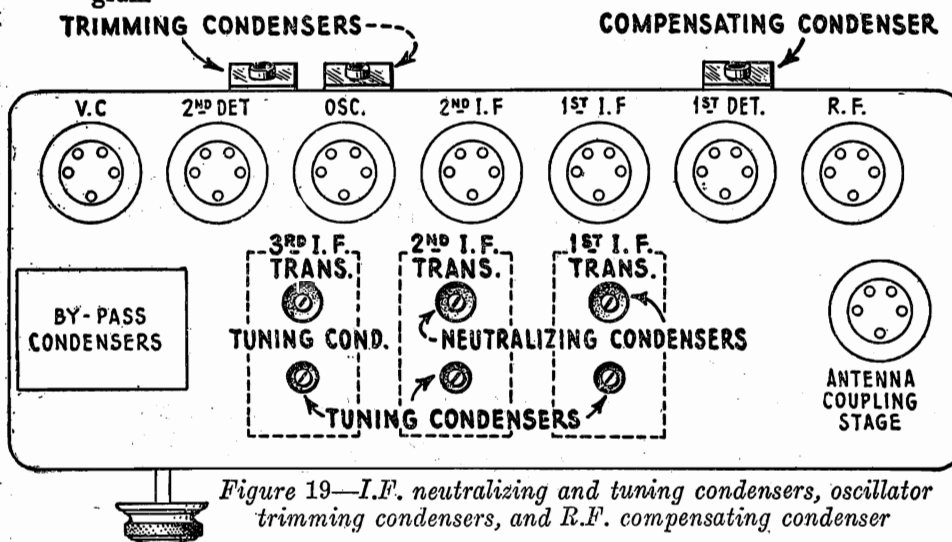

Figure 19—I.F. neutralizing and tuning condensers, oscillator trimming condensers, and R.F. compensating condenser
- (a) Adjust the tuning condensers successively on the third, second and first I.F. transformers (Figure 19) for maximum signal in the loudspeaker and maximum reading on the tuning meter. After making one adjustment on the transformers it is a good plan to repeat, as slight changes may have occurred in tuning the other circuits. No signal, or a loud howl indicates neutralizing condensers are at either extreme, and should be readjusted.
Leave all adjustments and apparatus in position on completion of tuning. Connect a pair of phones across the cone coil of the reproducer unit. Turn the power off while making this connection. Place dummy Radiotron in first I.F. socket. Now adjust the neutralizing condenser on the first I.F. transformer (Figure 19) for the position of minimum or no signal. This is easily identified and the adjustment is not critical.